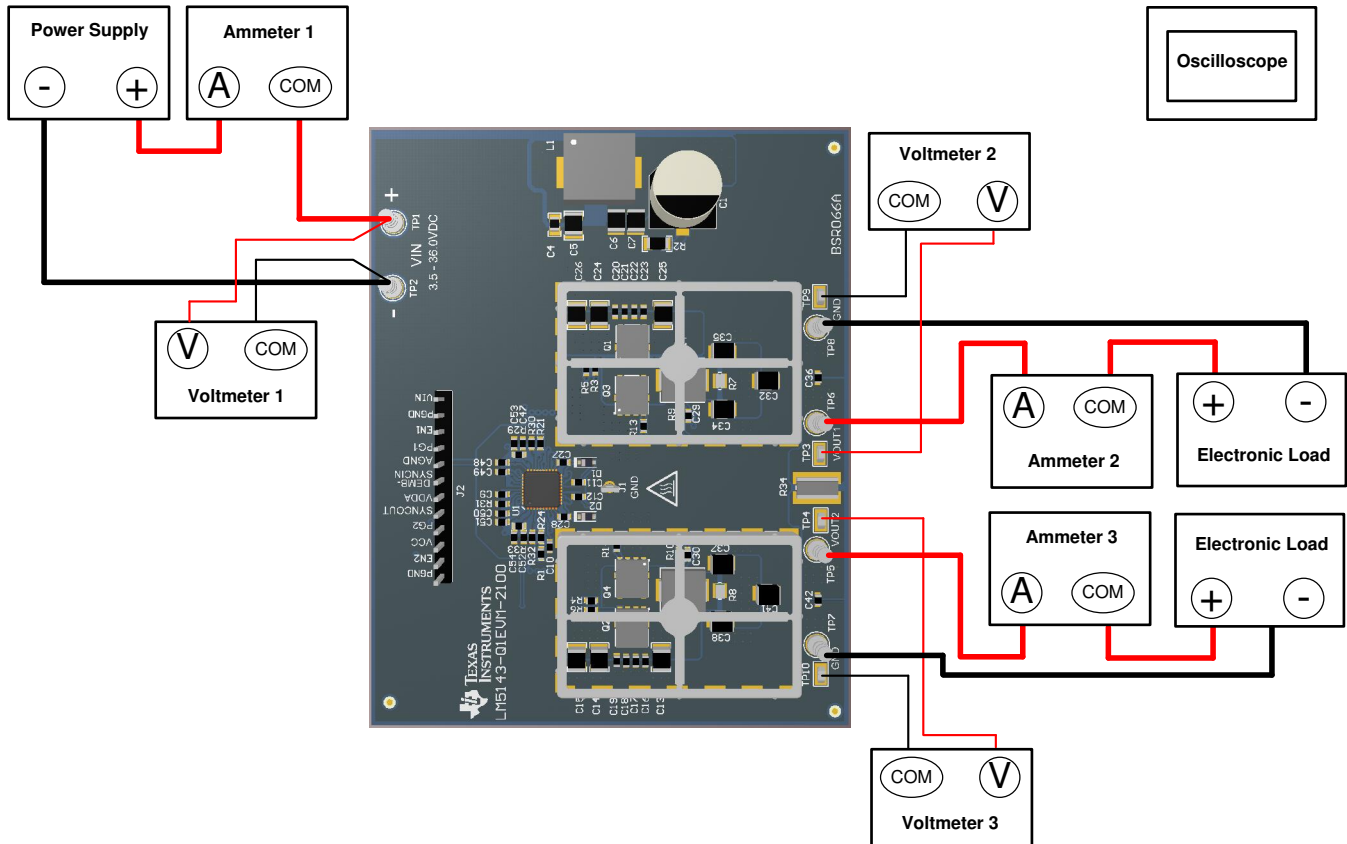

Figure 4. EVM Test Setup
Referencing the EVM connections described in Table 3, the recommended test setup to evaluate the LM5143-Q1EVM-2100 is shown in Figure 4. Working at an ESD-protected workstation, make sure that any wrist straps, boot straps, or mats are connected and referencing the user to earth ground before handling the EVM.
- Prior to connecting the DC input source, set the current limit of the input supply to 0.1 A maximum. Ensure the input source is initially set to 0 V and connected to the VIN+ and VIN– connection points as shown in Figure 4. An additional input bulk capacitor is recommended to provide damping if long input lines are used.